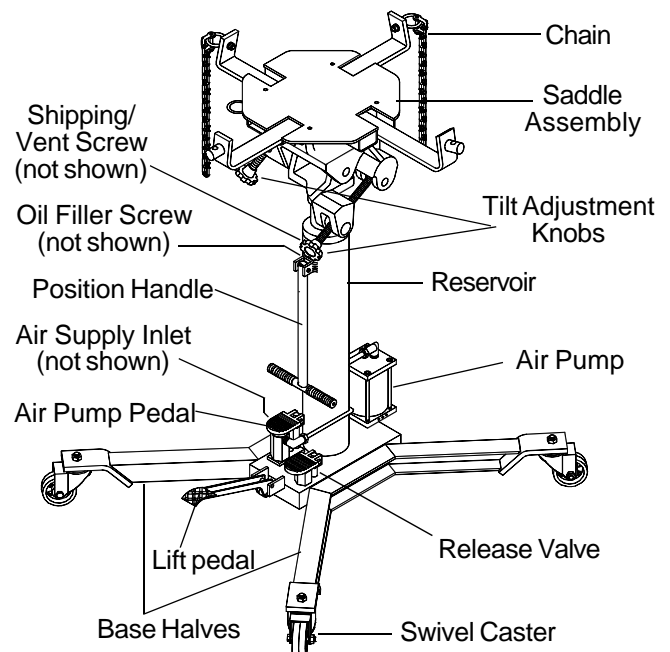

Figure 2 - Model BH7055 Nomenclature
1. Pour a teaspoon of good quality, air tool lubricant into the air supply inlet (See Figure 2). Connect to air supply and operate for 3 seconds to evenly distribute lubricant.